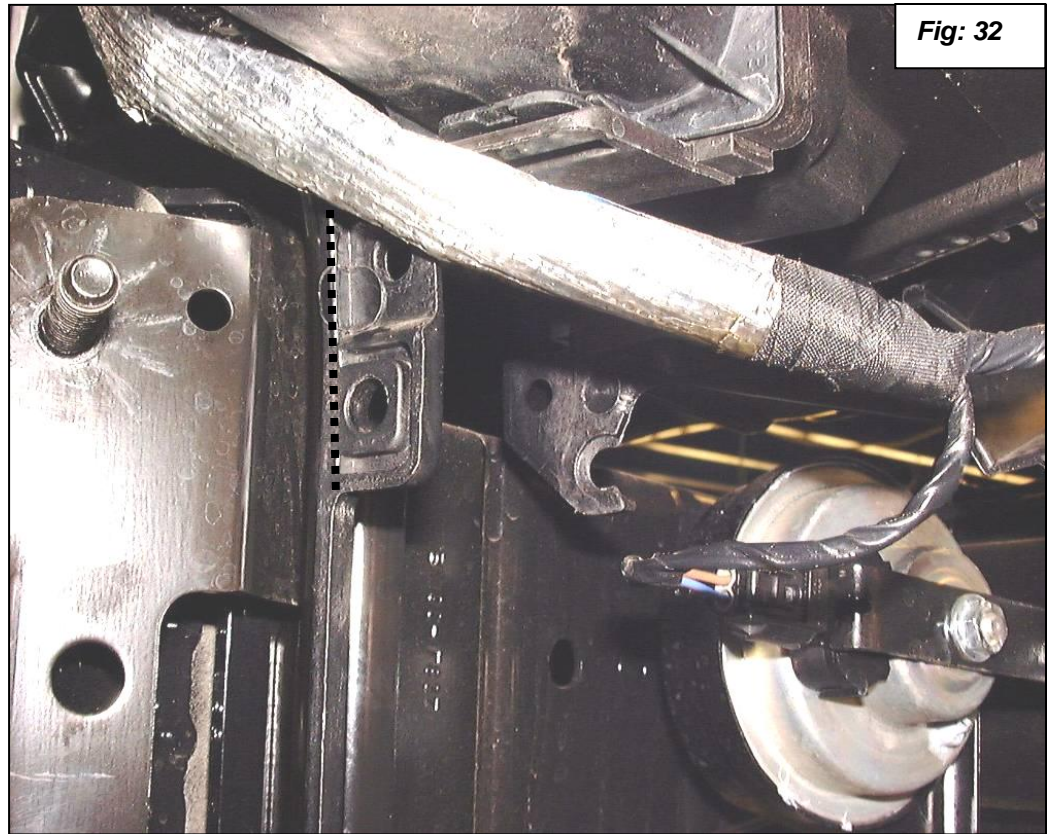

Fig: 32
23. Cut off the plastic mounting tab. You will need the space for clearance for the oil cooler line. See **figures 32 and 33**.